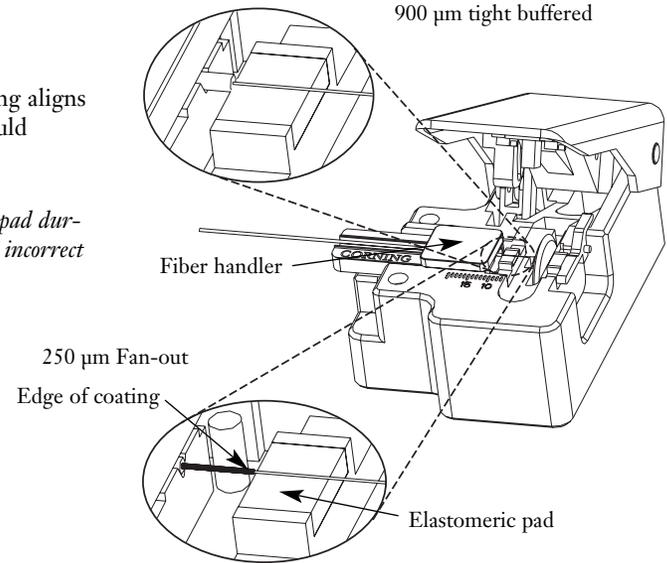

Figure 5-37
5.7-5 Position the handler in the cleaver so that the edge of the fiber coating aligns with the edge of the left-hand elastomeric pad (Figure 5-37). The coating should lightly contact the pad's edge. No pressure is required.